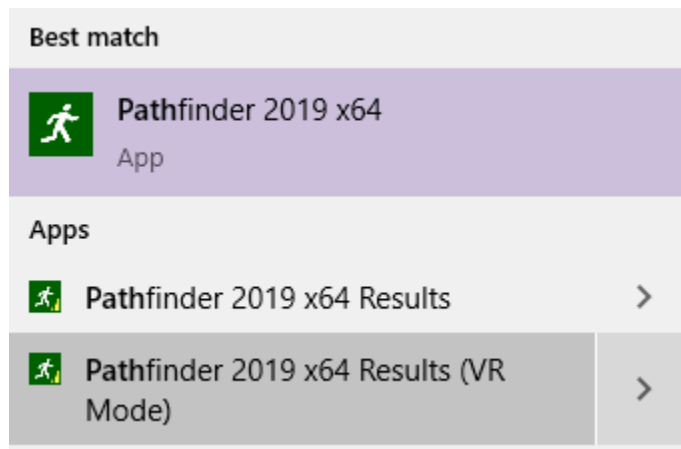

Figure 40. Shortcut Menu
3. While not wearing the headset, run Results using the Pathfinder VR Mode shortcut from the Start menu Figure 40.